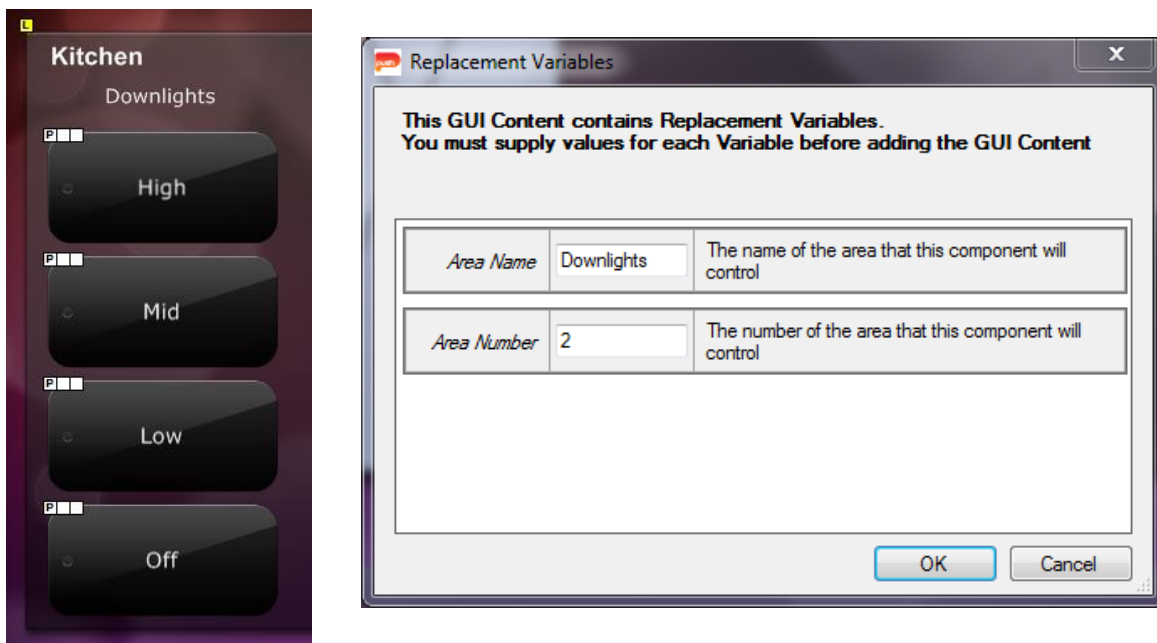

Figure 12 - DynalitePresetComponent (left); DynalitePresetComponent parameters dialog (right)
3. Upon releasing the left mouse button you will be presented with a dialog box (see **Figure 12**). This dialog box requires you to pass in two parameters to program the GUI assets within:
- a. Area Name – The name of the area that the component will be controlling. This will change the label at the top of the preset button block, which is the Downlights label in **Figure 12**